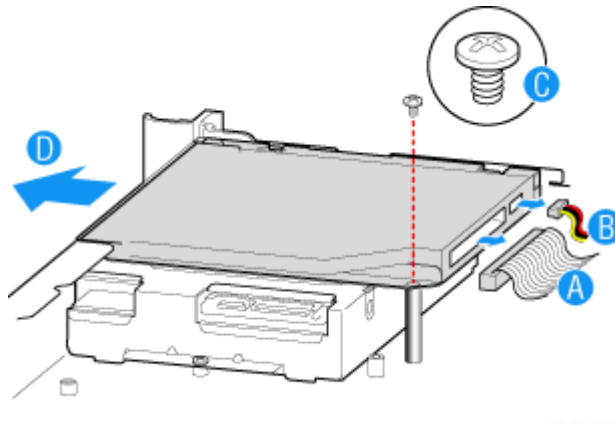

Figure 113: Removing the Optical Drive
6. Disconnect the optical drive power and data cables. See letters “A” and “B” in Figure 113.
7. Remove the screw that holds the optical drive bracket to the server chassis. See letter “C” in Figure 113.